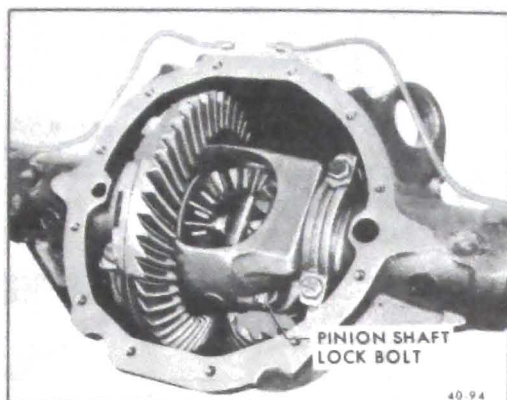

Figure 40-179 - Pinion Shaft Lock Bolt
4. Remove pinion shaft lock bolt and pinion shaft. See Figure 40-179.